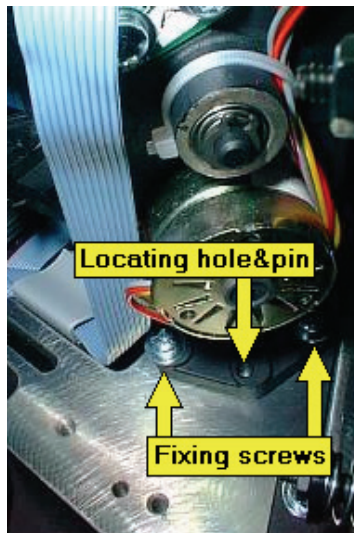

Figure 101 Fixing the excitation polarizer wheel in position
5. Fix the excitation polarizer wheel into the excitation filter wheel location by first locating the hole on the bottom of the filter bracket with the pin in the baseplate, then by tightening the two fixing screws, as shown in Figure 101.